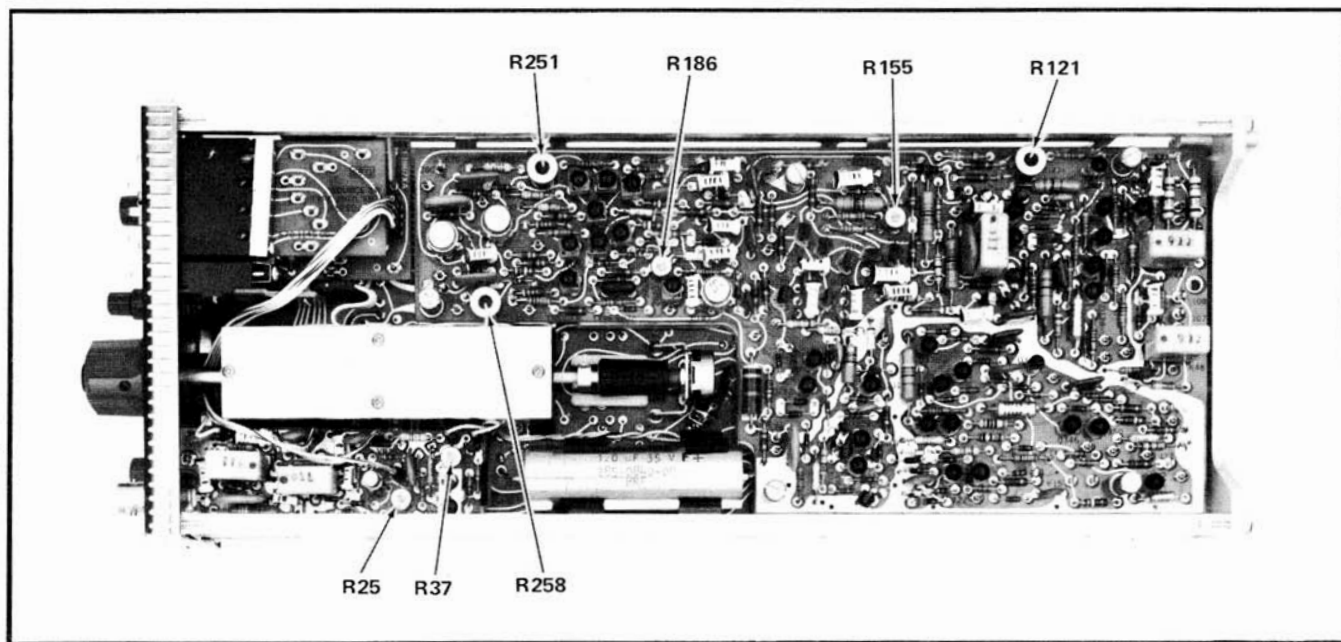

Fig. 5-1. Location of adjustments on Trigger Board.
1. Adjust Upper Positive Slope P-P AUTO Level (R251) ❶
c. ADJUST—R251 for a stable display. See Fig. 5-1 for location of adjustment.
2. Adjust Lower Positive Slope P-P AUTO Level (R258) ❷
b. ADJUST—R258 for a stable display. Refer to Fig. 5-1 for location of adjustment.
3. Adjust Negative Slope P-P AUTO Level (R155) ❸
b. ADJUST—R155 for a stable display. Refer to Fig. 5-1 for location of adjustment. Check for stable triggering over the full 360° range of the LEVEL/SLOPE control.